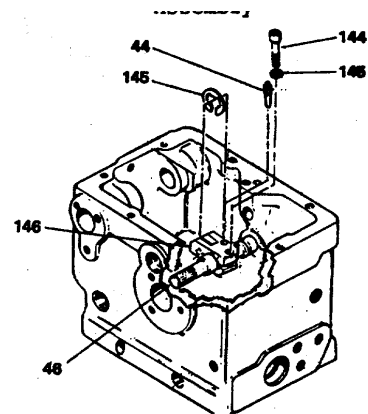

Figure 12-26. Terminal Shaft Installation
- screws (67) and washers (68 and 69).
- (25) Insert terminal shaft (46, figure 12-26) through side of case (figure 12-26) and through terminal lever (146). Insert tapered pin (33) into hole tight enough for alignment and thread screw (144) with washer (145) into terminal lever (146). Insert tapered pin (44) into hole tight enough for alignment and thread screw (144) with washer (145) into terminal lever and tighten. Tap taper pin until it is tight.